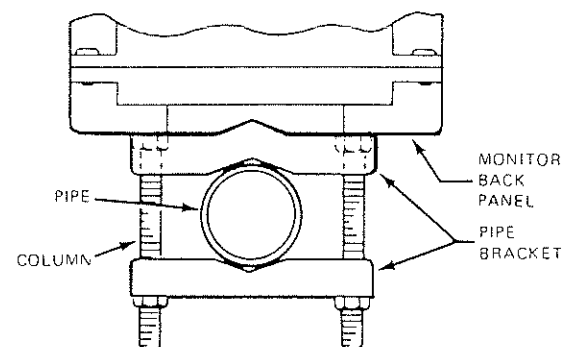

Figure 7. Pipe-Mounted Version, Hardware Orientation
2. Place one pipe bracket over four columns with flat side against Monitor back panel. Position bracket so that notches in bracket will contact pipe. Secure bracket with four nuts. See Figure 7.
3. Hold Monitor against either horizontal or vertical pipe and slide the remaining pipe bracket over the four columns so that notches in bracket contact pipe (Figure 7).